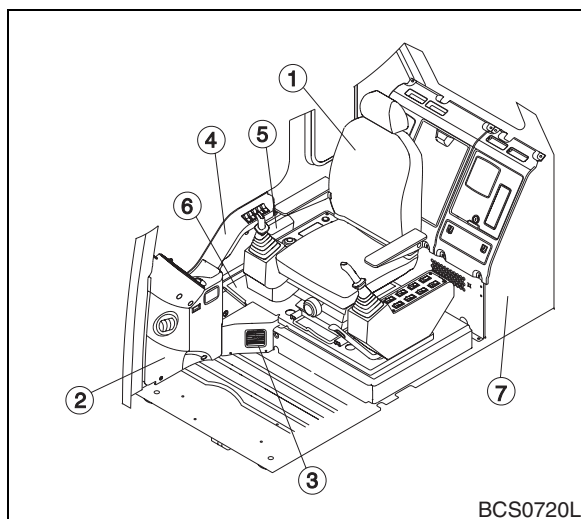

Figure 2
13. Remove operator's seat (1, Figure 2).
14. Remove duct covers (2, 3 and 4, Figure 2). When removing cover (2) disconnect hour meter connector and cigar lighter connector. Disconnect main harness connector before removing cover (4).
15. Remove pocket (5, Figure 2) before removing side panel (6, Figure 2).
23. Disconnect cab ground cable (7, Figure 2).